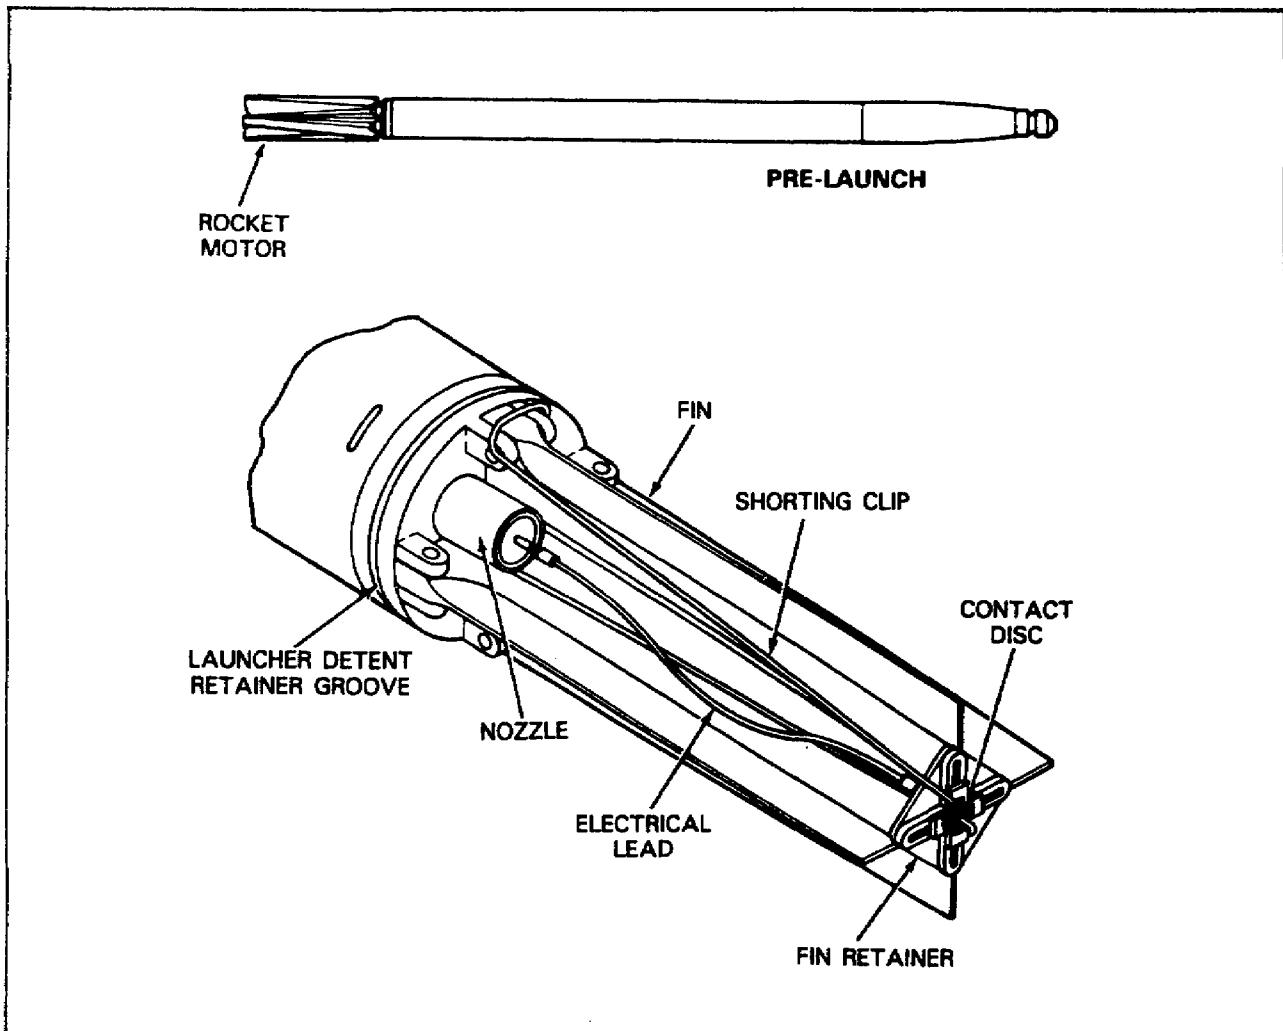

Figure 47. Characteristics of the 2.75-Inch Aircraft Rocket Nozzle and Fin Assembly.
**Motors.** The MK 4/40 rocket motor of the 2.75-inch aircraft rocket contains a single unit of solid propellant with a star-shaped perforation through the center. It has an electric igniter that uses electric current from the aircraft. The nozzle and fin assembly (Figure 47) is mounted on the back end of the motor. It has four folding fins that open to a 45-degree angle after launch. It has four nozzles, either cut straight across the end or "scarfed," cut